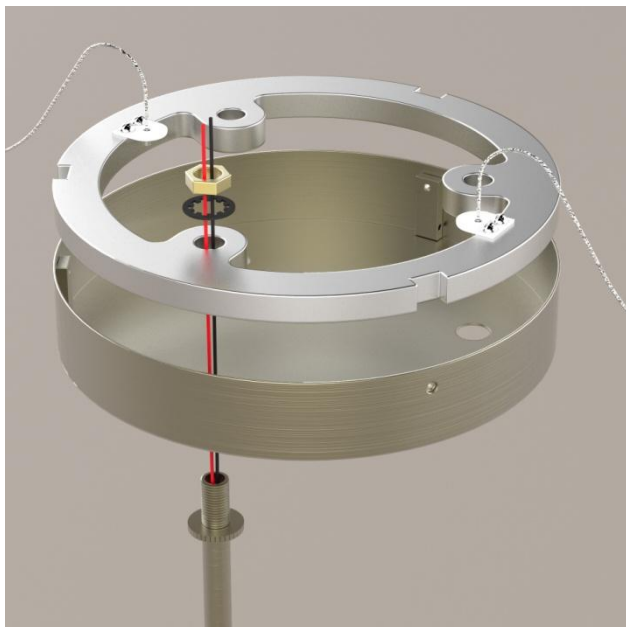

Figure 5
- Feed top end of stem through canopy and aluminum anchor ring (Figure 5).